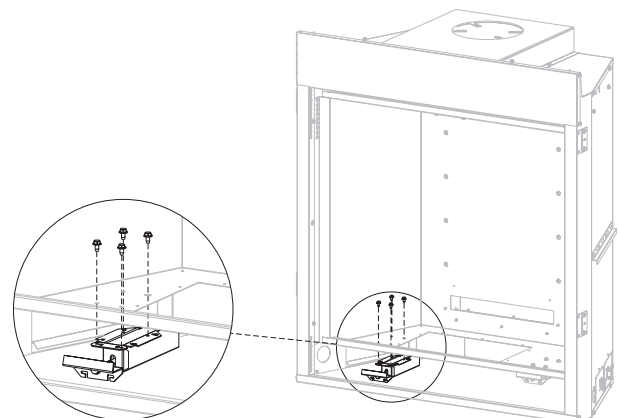

Figure 12
9. Remove the four screws securing the left latch assembly to the underside of the firebox. Retain screws and latch assembly for reassembly. See Figure 12.
12. Reinstall the latch assembly removed in step 9. **See Figure 12.**